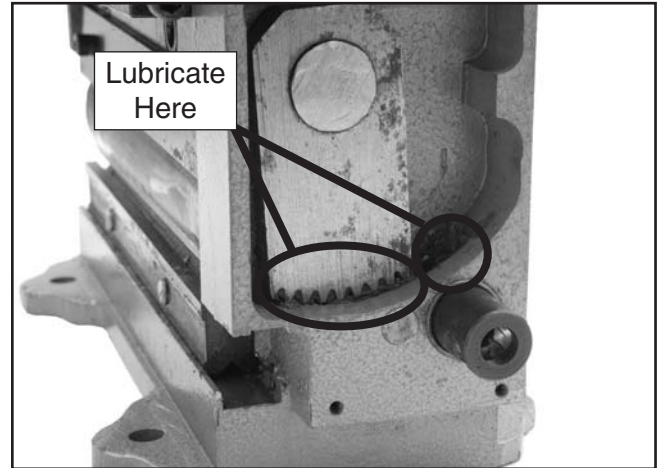

Figure 33. Gear grease locations.
5. Using mineral spirits, a brush and a rag, clean and dry the rack and pinion gears (**Figure 33**) and the gear housing.